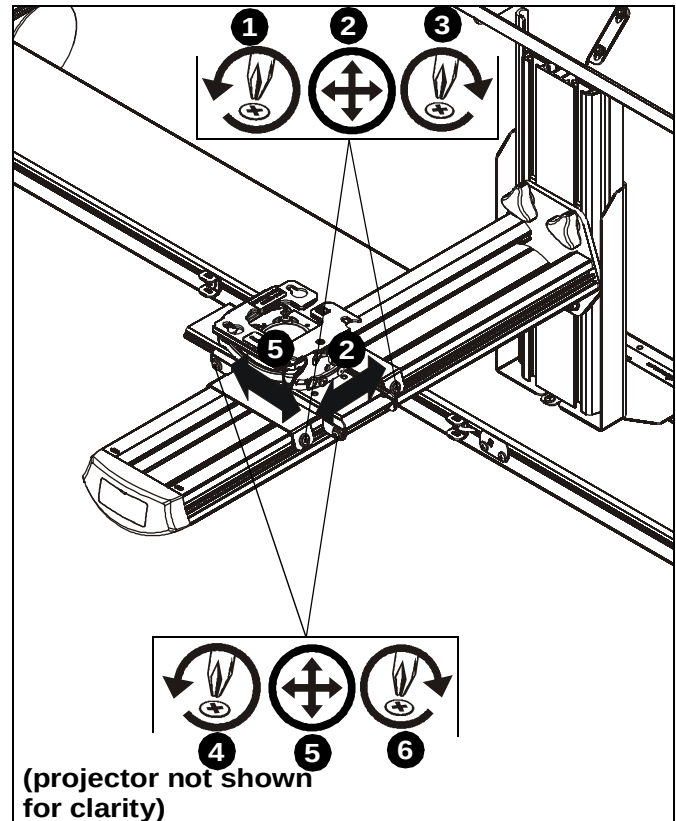

Figure 16
1. Loosen screws holding base bracket to projector arm. (See Figure 16)
2. Slide projector along projector arm until desired projector position is reached. (See Figure 16)
3. Tighten screws holding base bracket to projector arm. (See Figure 16)
4. Loosen two screws on either side of the lateral shift plate. (See Figure 16)
5. Carefully slide projector laterally until desired lateral position is reached. (See Figure 16)
6. Tighten two screws on either side of lateral shift plate that were loosened in Step 4. (See Figure 16)